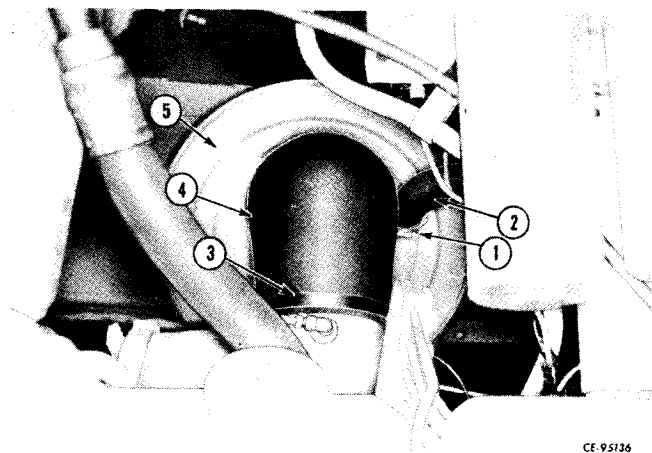

Figure 2-32
Install air compressor hose (2, Fig. 2-32) in end of air cleaner (5). Position and tighten hose clamp (1). Position and tighten hose clamp (3) securing tube (4) to intake manifold.